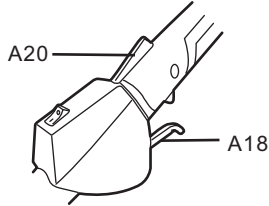

Fig. 22
1. Press the throttle interlock (A20), hold it in position and then press the throttle trigger (A18) to engage the attachment (Fig. 22).